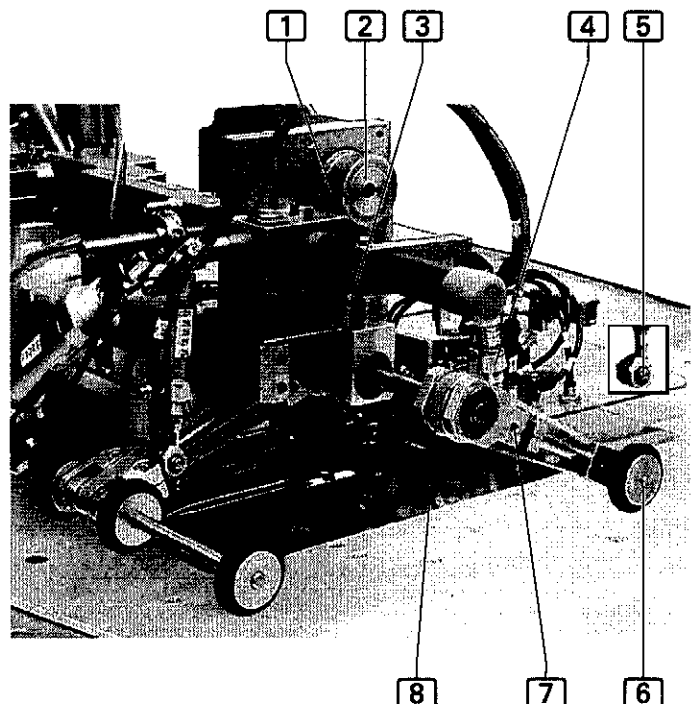

Fig. 4
3. **Fig. 4:** Slacken the toothed belt **[1]** by removing the locating screw **[3]** of the stepper motor mounting plate.
3. **Fig. 4:** Slacken the toothed belt **[8]** by removing the Allen screw **[7]** at the bearing and sliding the spacer shaft with the transport rollers **[6]** up.